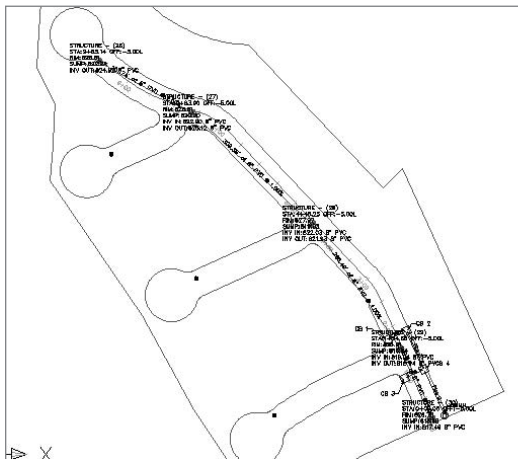

Figure 13.4
6. The command line will now read Specify next structure insertion point or [Curve]:. Use your center osnap to continue placing structures for the remaining six markers along Parker Place, as shown in Figure 13.4. (Your labels will be moved out of the way later in the exercise.)